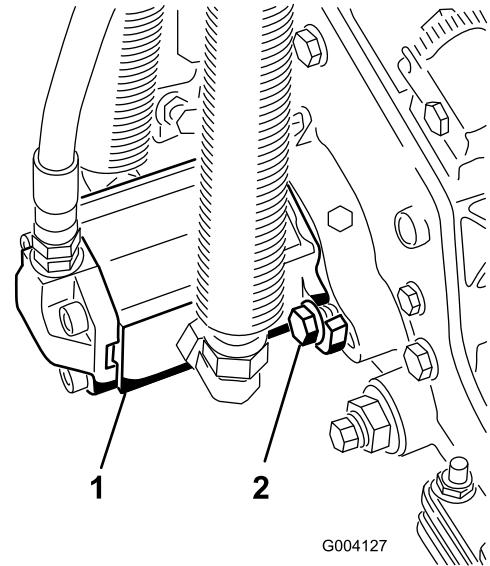

Figure 14
- 16. Install the motor by rotating it clockwise so that the motor flanges clear the bolts (Figure 14). Rotate the motor counterclockwise until the flanges encircle the bolts then tighten the bolts.